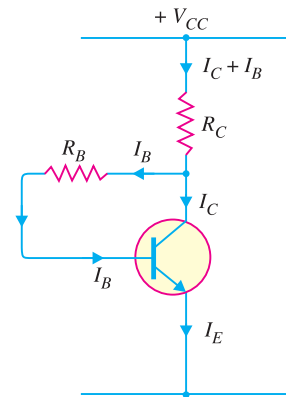

Fig. 9.19
In this method, one end of  $R_B$  is connected to the base and the other end to the collector as shown in Fig. 9.19. Here, the required zero signal base current is determined *not* by  $V_{CC}$  but by the collector-base voltage  $V_{CB}$ . It is clear that  $V_{CB}$  forward biases the base-emitter junction and hence base current  $I_B$  flows through  $R_B$ . This causes the zero signal collector current to flow in the circuit.
**Circuit analysis.** The required value of  $R_B$  needed to give the zero signal current  $I_C$  can be determined as follows. Referring to Fig. 9.19,
**Note.** It can be easily proved (See **\*\***example 9.17) that Q-point values ( $I_C$  and  $V_{CE}$ ) for the circuit shown in Fig. 9.19 are given by ;
\*\* Put  $R_E = 0$  for the expression of  $I_C$  in example 9.17. It is because in the present circuit (Fig. 9.19), there is no  $R_E$ .